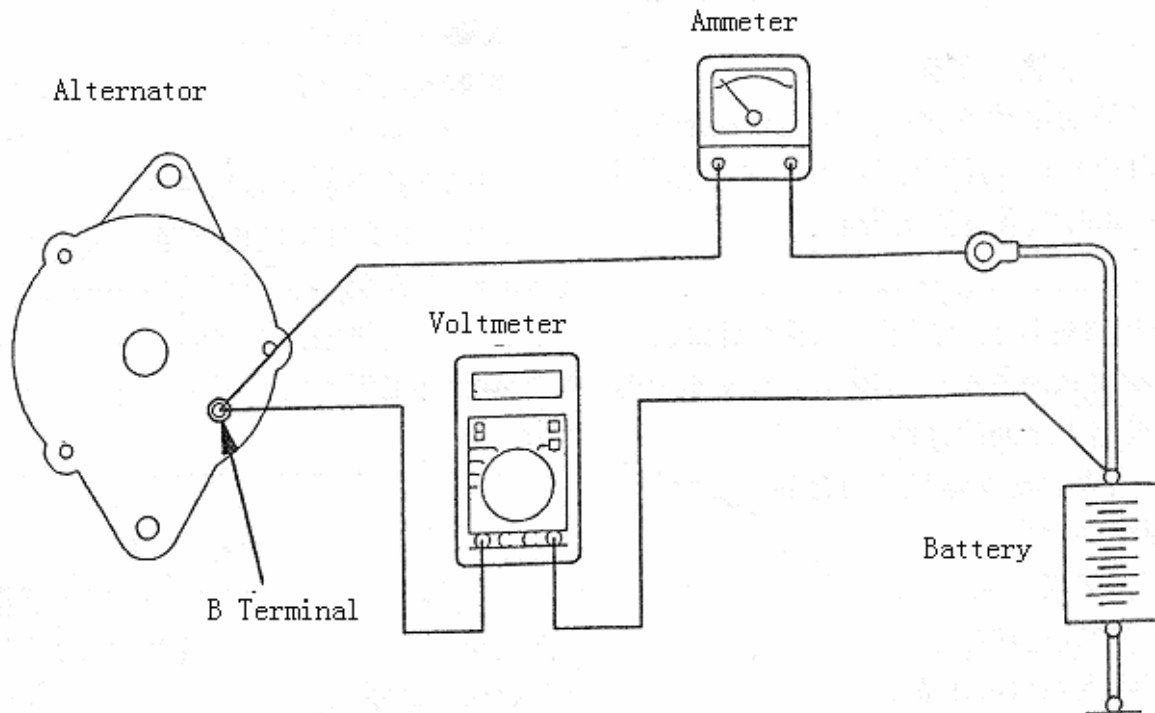

Fig. 9-29
- 1) Alternator output line voltage drop test (see Fig.9-29)